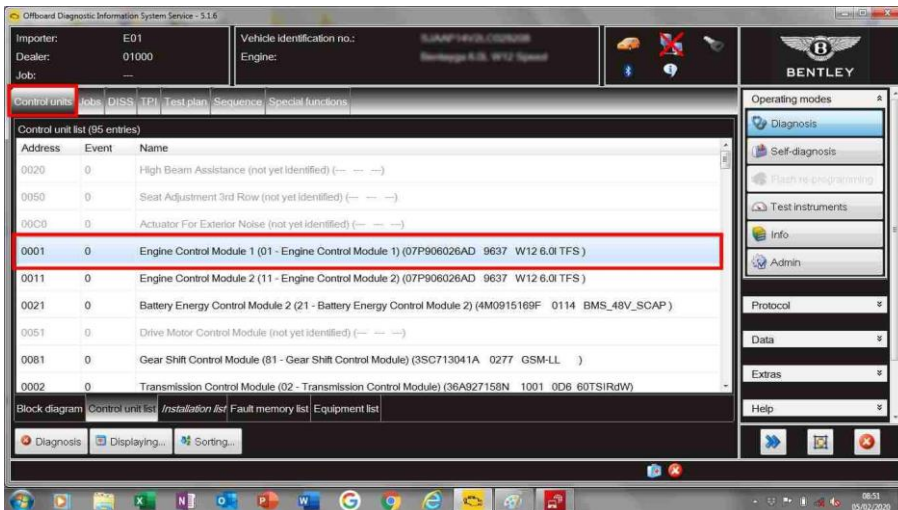

Figure 1
- Select “Control units” and then “Engine Control Module 1 (01 – Engine Control Module 1)” – Figure 1.